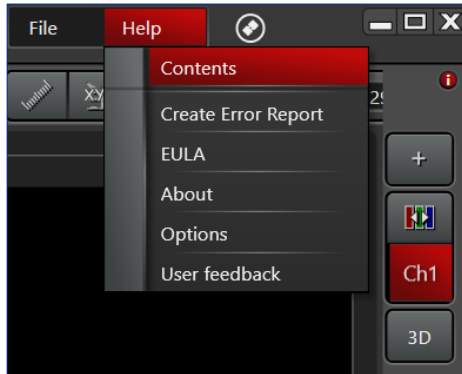

Figure 2: Help available in LAS X
1. In LAS X, navigate to Help > Contents (Figure 2).